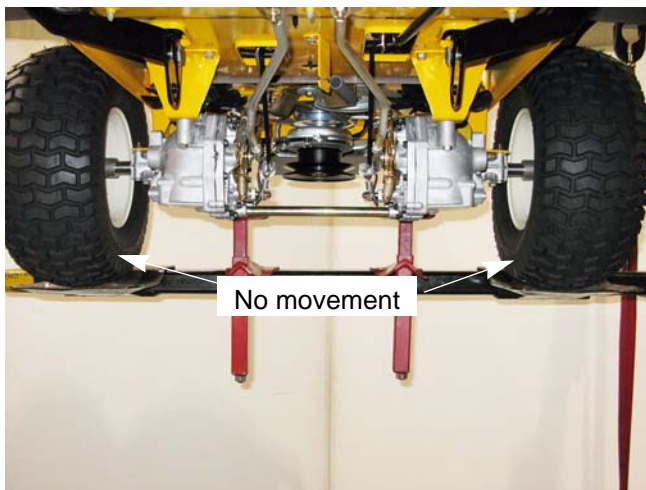

Figure 4.35
6. Observe the movement of both rear wheels. See Figure 4.35.